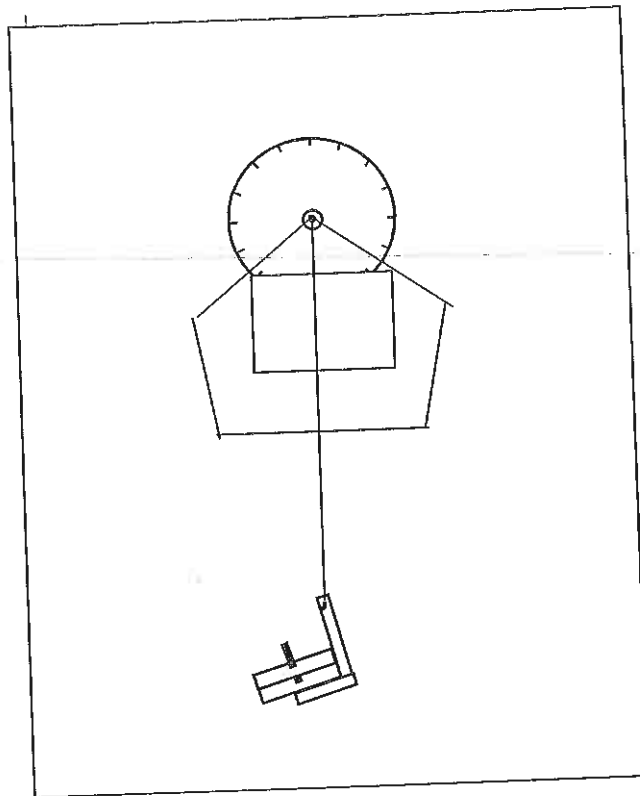

Figure 8.3: Finding the center of mass
7. Tape a piece of paper to the planar mass as shown Fig.8.3. Mark the paper to indicate the line of the string across the planar mass. Now hang the planar mass from a different point. Again, mark the line of the string. By finding the intersection of the two lines, locate the center of mass of the planar mass.